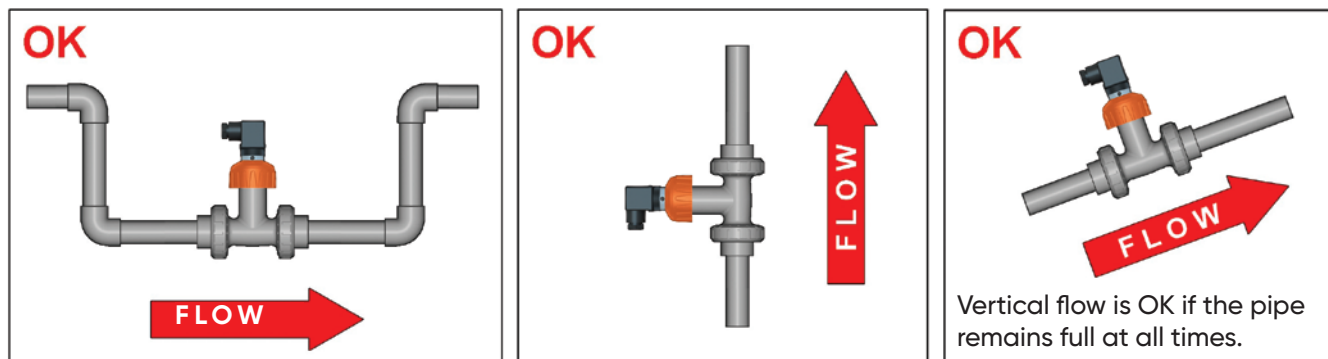

Fig. 2
- The three configurations shown in **Fig.2** ensure that the pipe is always full: for a correct measurement the sensor must NEVER be exposed to air bubbles.